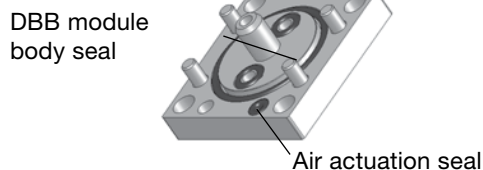

Fig. 9
3. To replace the **DBB module body seal** (9-022) or **actuation air seal** (9-004), remove the module and flange according to steps 1 and 2 of **Flange Replacement**. See Fig. 9.